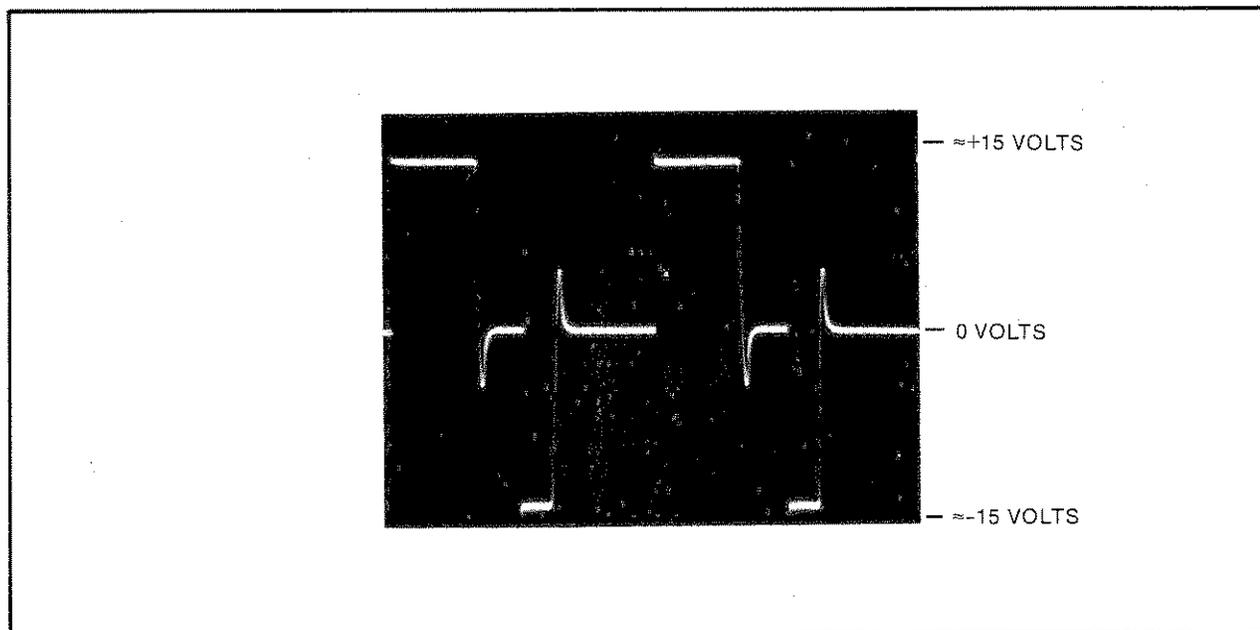
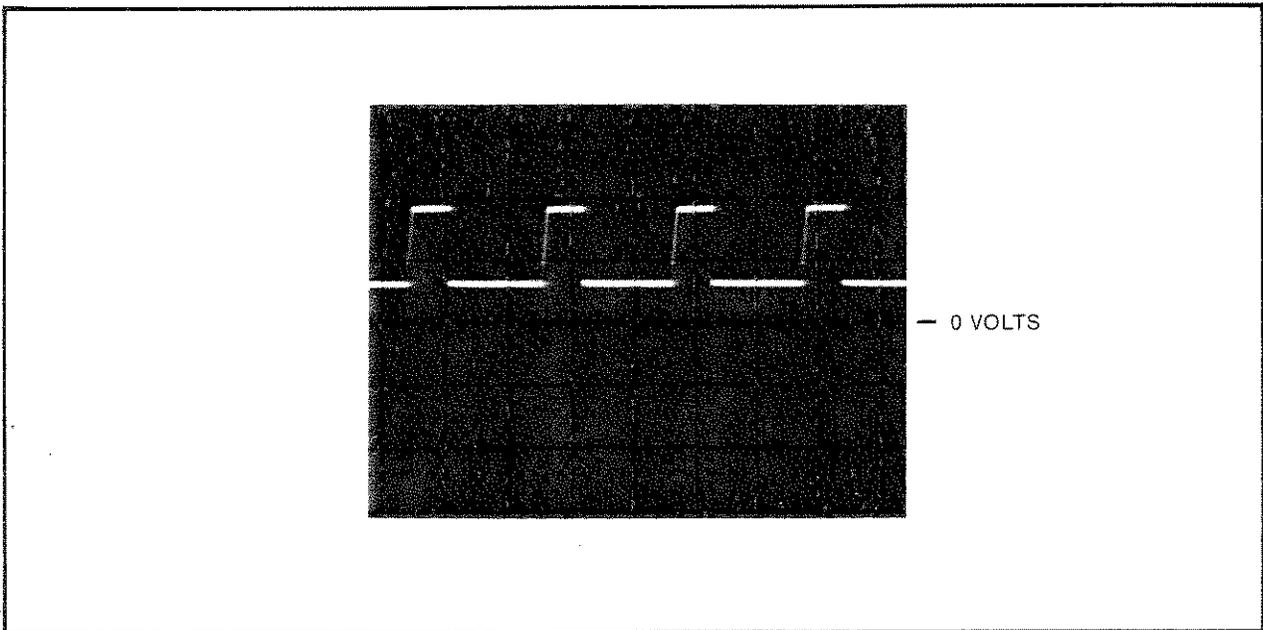

Figure 8-20. Test Point 11 Waveform (HEATER SENSE)
Figure 8-21. E-REF [U20 (Pin 9)]
- b. Within 1 minute of setting POWER AMP to UP, is voltage at A3TP11 a nonsymmetrical square wave with \pm peak voltages > 13 Volts? (See Figure 8-20.) If yes, go to step d. If not, go to step c.
Figure 8-20 oscilloscope settings are as follows:
- g. While observing voltage at A3TP11, move POWER AMP jumper from DWN to UP. TP11 voltage should change from 0 Vdc to waveform of *Figure 8-20*. If OK, go to step h. If not, check U20 (Pins 11, 12, 13, and 14) for activity (see A3 schematic for waveforms). If waveform activity is not present, check U20 (Pins 3 and 7) for clock activity (see A3 schematic for waveforms). If waveforms and clock activity are OK, check A1 power amp transistors for (A1Q5-9) proper operation. Check E-REF input to U20 (Pin 9). Waveform should be as in *Figure 8-21*.
Figure 8-21 oscilloscope settings are as follows:
- a. Set HEATER jumper to OFF. A3TP11 waveform (see *Figure 8-20*) changes to 0 Vdc. If yes, go to step b. If no, go to power amplifier servicing.